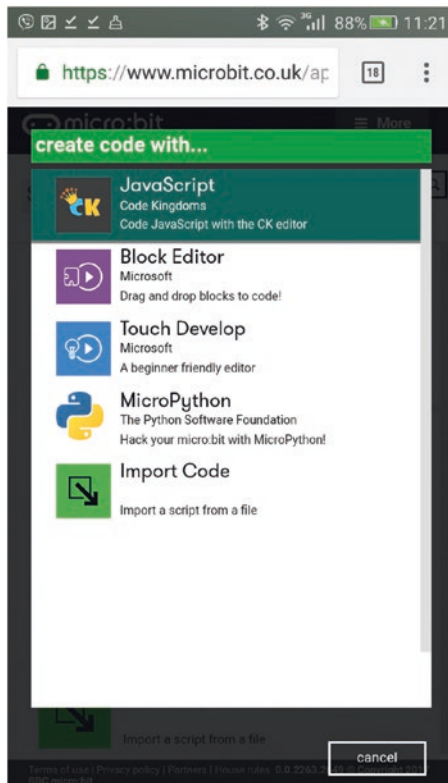

Figure B-11. Tapping the MicroPython editor option
1. Tap the MicroPython option (see Figure B-11) from the list of code editors.